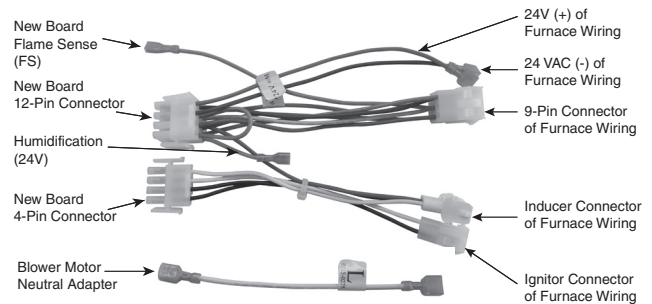

Figure 2 – Old Style Wiring Harness Adaptor
Use Old Style Wiring Harness Adaptor. Reference Fig. 2, Table 1 and Wiring Diagram.
1. With power removed, connect the old style wiring adapter (Reference Fig. 2) 9-pin connector, Inducer connector, and Ignitor connector to the appropriate connectors in the furnace.
3. Connect the 12-pin, 4-pin and Flame Sense (FS) connectors to the new control